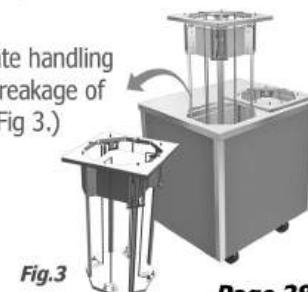

Fig.3
**D) Setting The Plate Handling Height (Spring Adjustment).** The plate handling height must be set to prevent fingers from getting caught and to avoid the breakage of plates. With both plate dispenser serving elements removed from the base (Fig 3.)